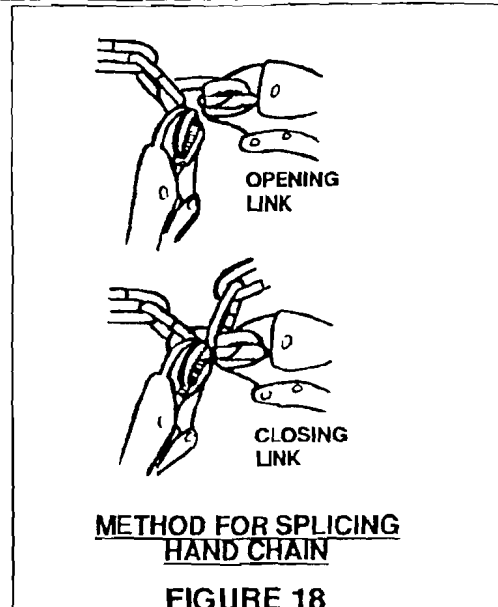

FIGURE 18
- STEP Q:** Thread hand chain **U** over pocket wheel **Q** and through chain guide **R**. Connect hand chain together as shown in Figure 18. Chain must not be twisted.
- NOTE:** A visual check should be made to verify: (1) All sprockets are in alignment, (2) Slack in chain is not excessive, (3) All set screws are tight, (4) All master links have keepers installed properly, (5) Key located properly, (6) That brace assembly is installed properly (Drive # 5 must have this item installed to operate properly).